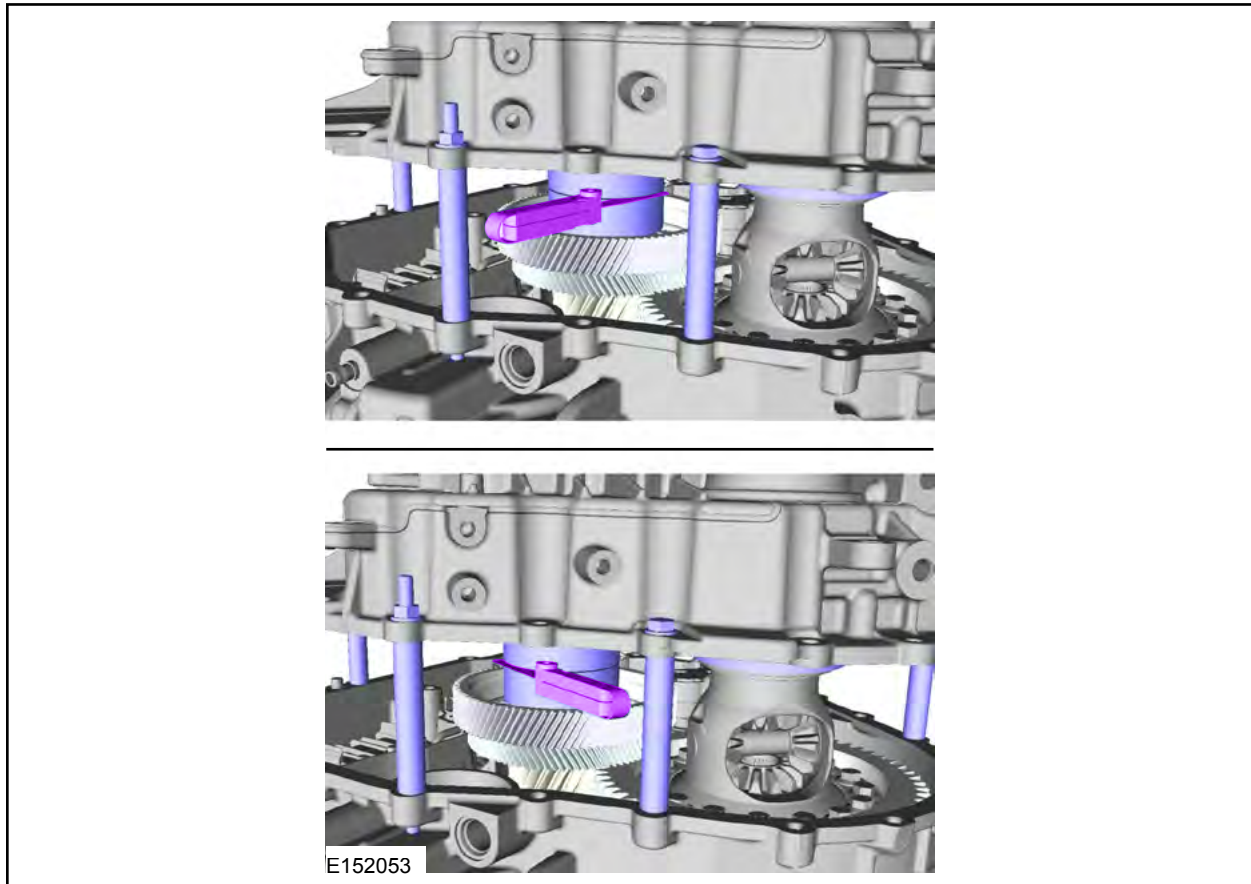

FIGURE 28
23. Using a feeler gauge measure and record the smallest and largest preload gap on the 307-692 Tool, Transfer Gear Preload. Average the two measurements to get the measurement needed when referring to the shim chart for proper shim selection. See Figure 28.